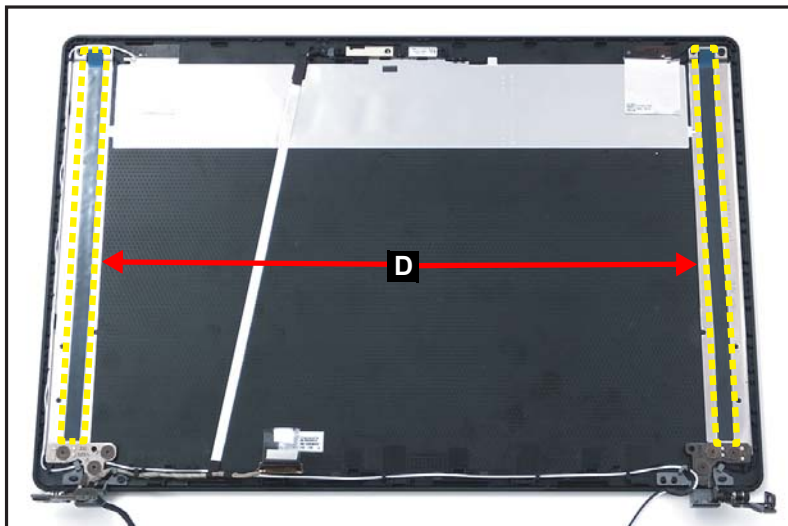

Figure 1-77. Replacing the LCD Panel
5. Adhere the double-sided adhesive mounting tapes (D) on both sides of the LCD hinges and press each tape for about 30 seconds. Then peel off the protective film from the double-sided adhesive mounting tapes (Figure 1-77).
Before applying the new double-sided adhesive mounting tapes, make sure to clean the surface properly with the rubbing alcohol. Then attach the adhesive mounting tapes onto the designated slots as shown in the below illustration (Figure 1-77).